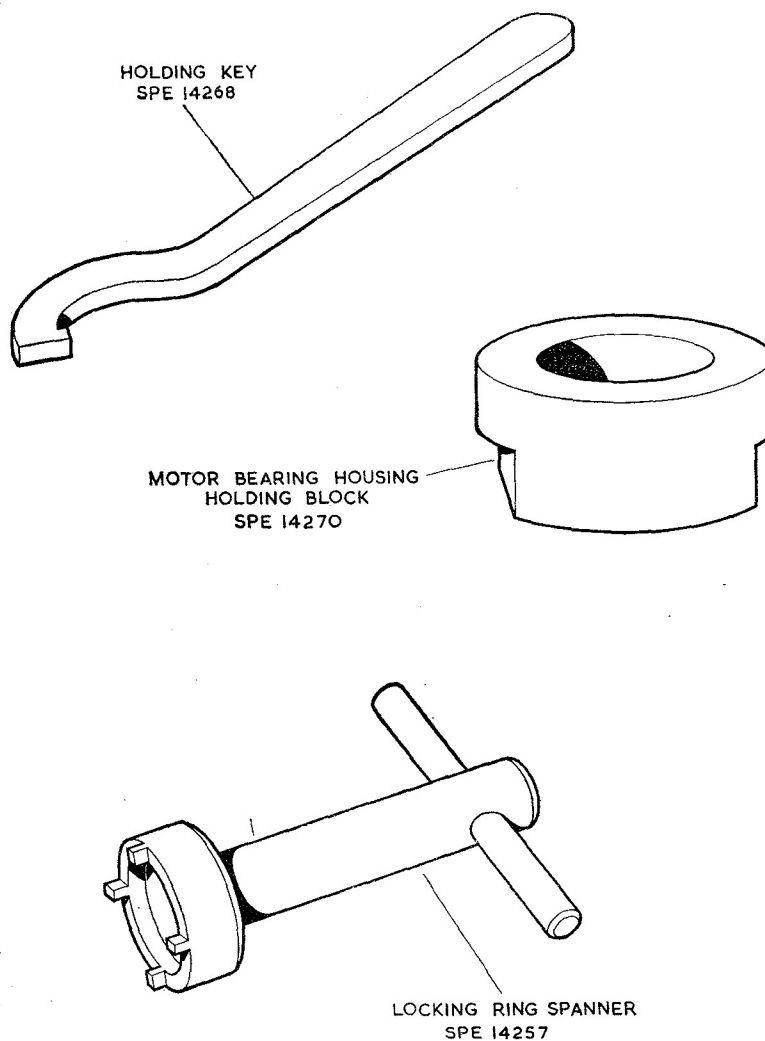

Fig. 11. Bearing housing dismantling and re-assembly tools
(2) Fit the selected bearing (130) into the housing. Place the housing in the holding block SPE. 14270 (fig. 11) and screw in the locking ring.
(3) Holding the rim of the housing with the special ring spanner SPE. 14268 (fig. 11) tighten up the locking ring hard against the outer race of the bearing using the special spanner SPE. 14257 (fig. 11). Ease the locking ring sufficiently to align one of the twelve slots with one of the small holes in the rim of the housing.
(4) Fit a split pin (131) and lock the ring by splaying the ends of the pin.